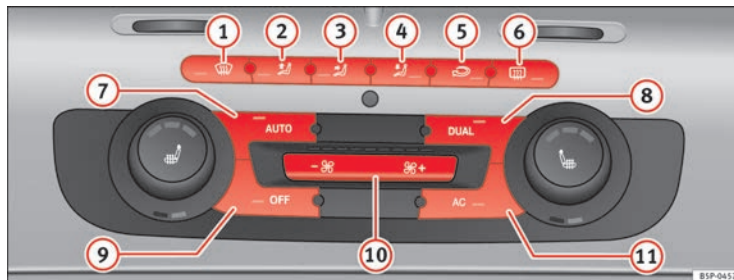

Fig. 134 On the instrument panel: 2C Climatronic controls.
- To enter manual mode, press one of the buttons ⇒ fig. 134 (1) to (5) or press the air flow control (10). The selected function is shown on the radio or navigator display.
- Press the button  ⇒ page 161, fig. 134 ② to switch air recirculation mode on or off. It is switched on if the following symbol appears in the display .